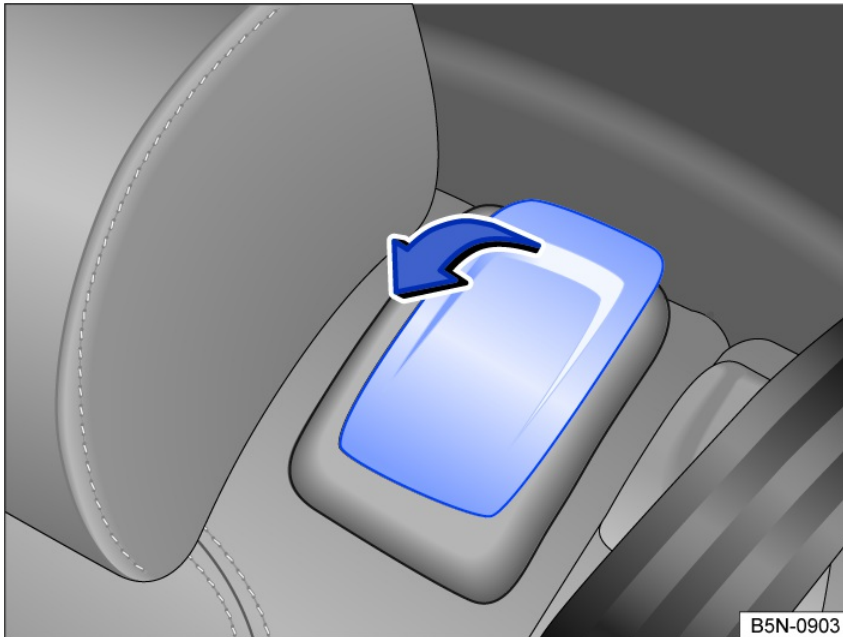

Fig. 90 Second row seats: entry assistance controls.
- Pull the lever fig. 90 forwards in the direction of the arrow, fold the rear seat backrest forwards and push the seat forwards.
- Pull the lever fig. 90 and fold the rear seat backrest back into the upright position. The entire rear seat will fold back ⇒ ⚠.